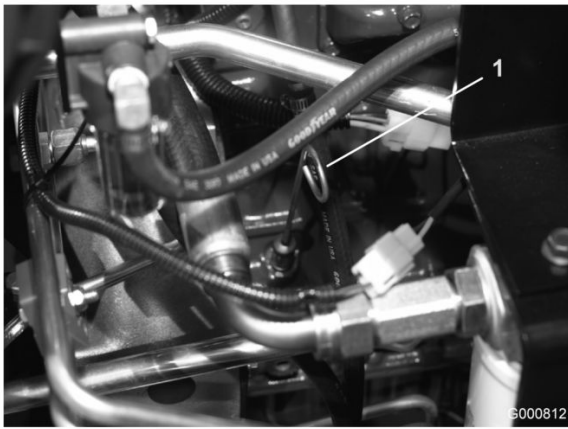

Figure 30
2. Remove dipstick (Figure 30), wipe clean and reinstall dipstick. Pull it out again and check oil level on dipstick: Oil level should be up to FULL mark on dipstick.